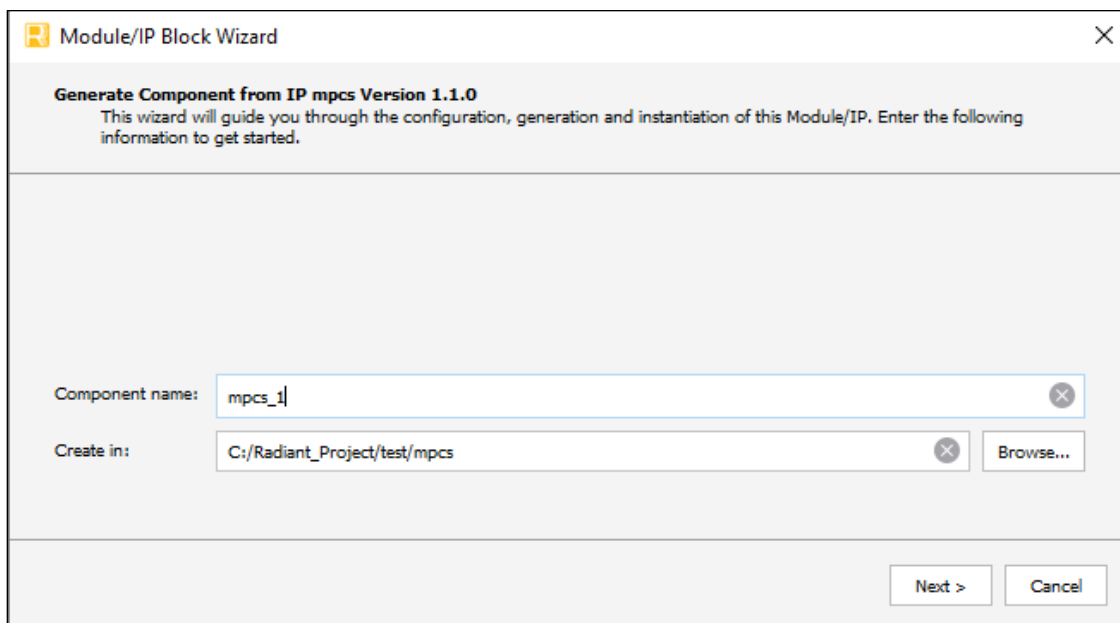

Figure 7.1. Module/IP Block Wizard
3. The **Module/IP Block Wizard** opens, as shown in Figure 7.1. Enter values in the **Component name** and the **Create in** fields and click **Next**.
- Click **Finish**. All the generated files are placed under the directory paths in the **Create in** and the **Component name** fields shown in Figure 7.1.